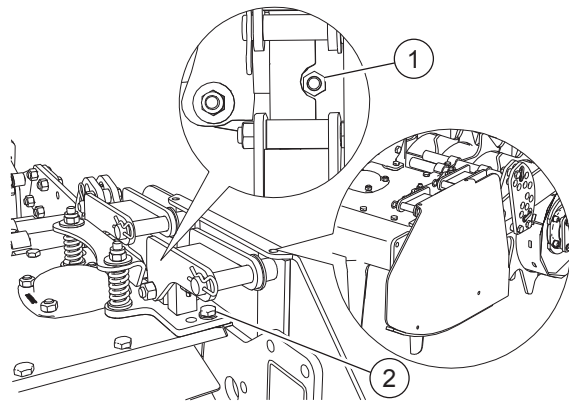

FIG. 18
- Loosen the nuts (1, “Fig. 18”).
- Loosen the bolts (2).